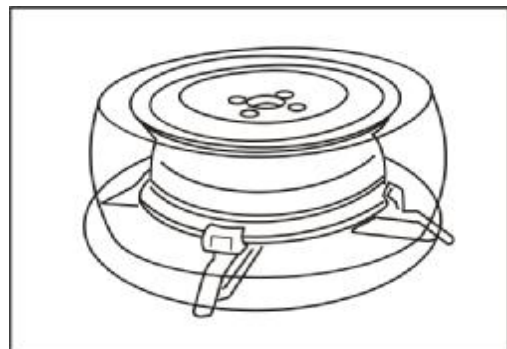

Fig.06
- Ø In case of outward clamping, enlarge the jaws outward (2-3cm away from periphery of the rim) and place the wheel on the turntable and depress pedal ⊕ to clamp it (Fig. 06).